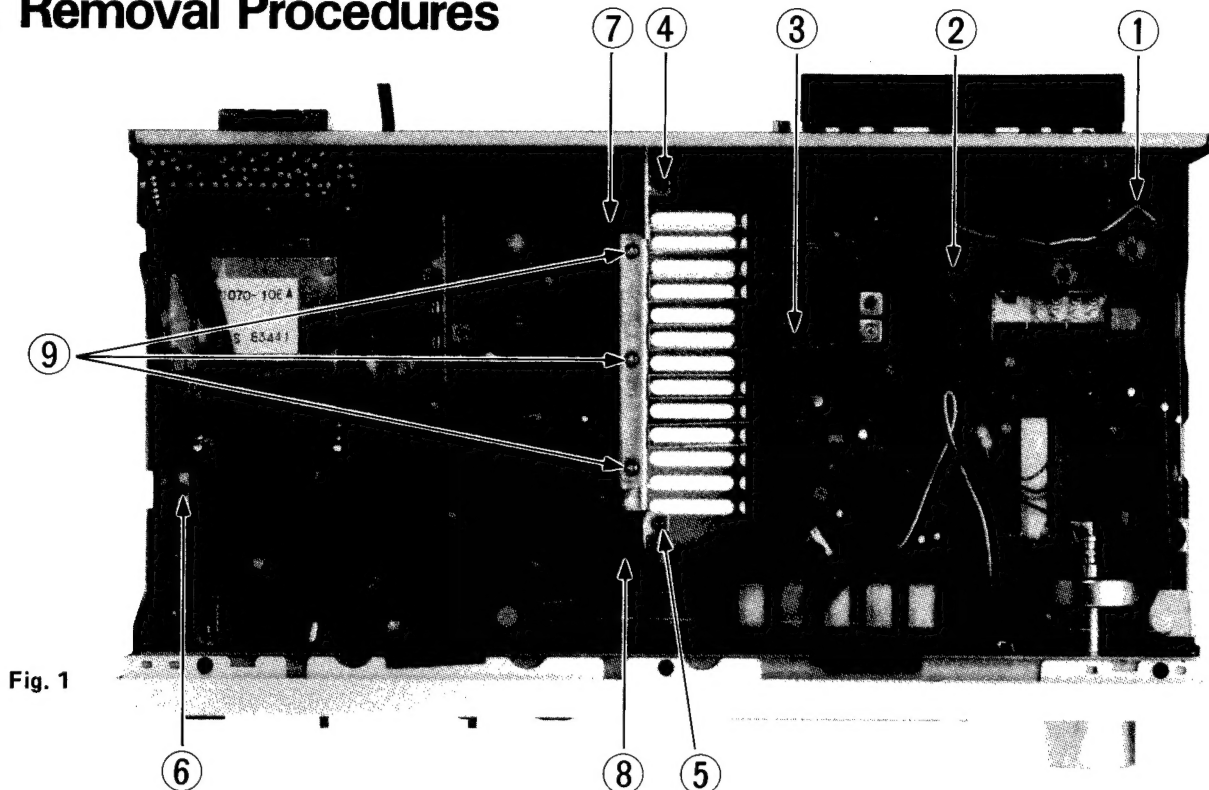

Fig. 1
- Step 1: Remove three screws ① through ③ which secure the tuner PC board (See Fig. 1).
- Step 2: Remove three screws ④ through ⑥ which secure the amplifier PC board and the heat sink (See Fig. 1).